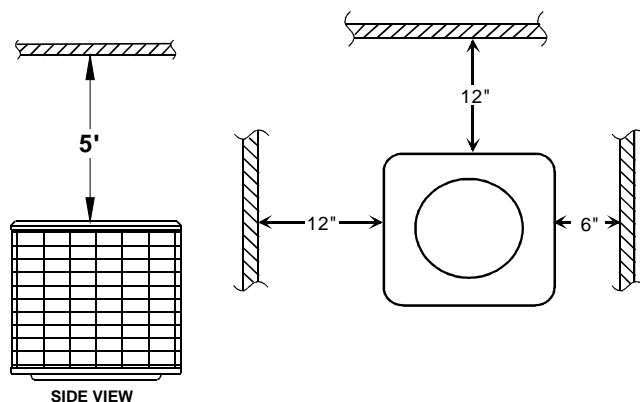

Figure 1
This unit is for outdoor installation only. Refer to Figure 1 for clearances from the sides of the unit to full walls and other objects.
If installing two or more units at the same location, allow at least 24 inches between the units when using the 6"-12"-12" guidelines in Figure 1. The space between two units may be reduced to 12" if the clearances in Figure 1 are increased to 12"-24"-24".
- In accordance with the minimum clearances described Figure 1.